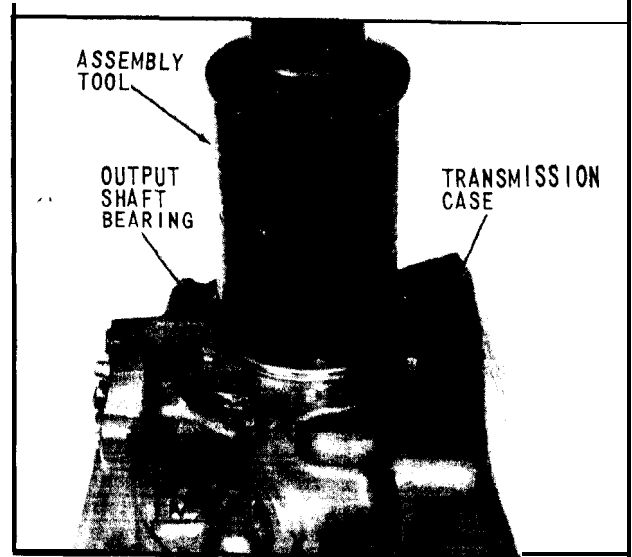

Fig. 29 Rear Bearing Pressed in Place
12. Using an **assembly** tool designed to press evenly on the bearing outer and inner races, press bearing down until seated against shaft or case shoulder, (Fig. 29).